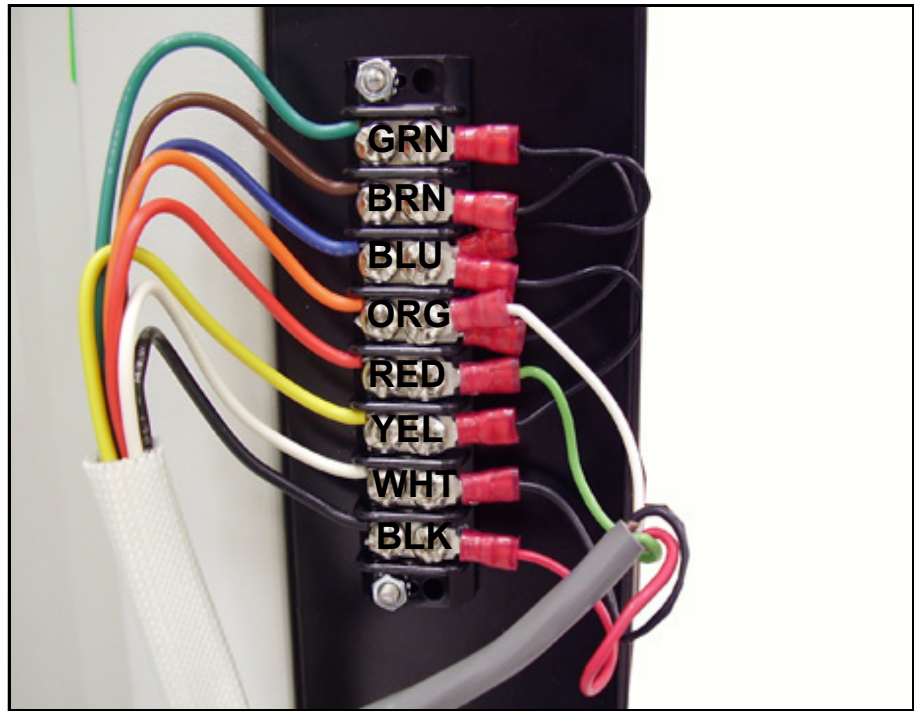

Figure 6-28. PBL Wiring Diagram
- 14 Reverse steps to reassemble. Use Figure 6-28 as a wiring guide.